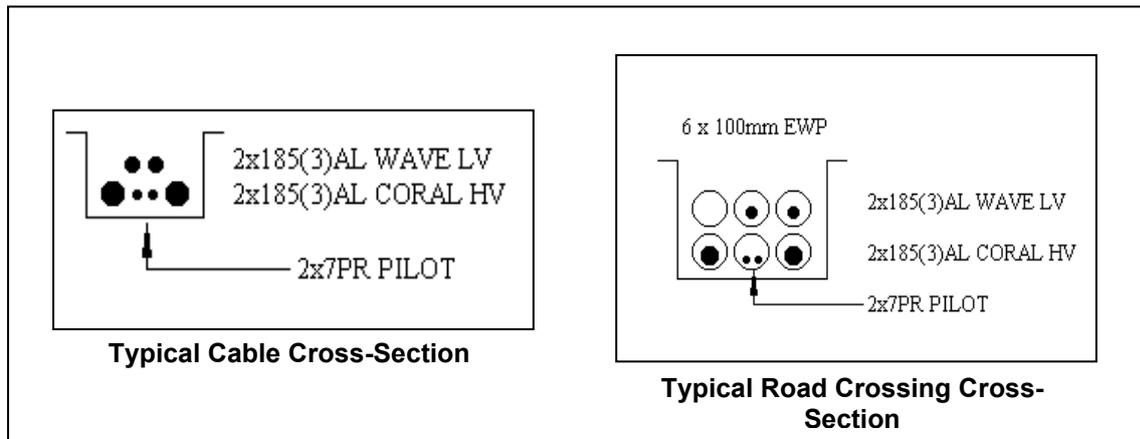

Figure 3
- If multiple cables / pipes / road-crossings are laid, the configuration and depths of these must be shown on any drawings (Refer to Figure 3). The configuration should be shown in a section drawing: